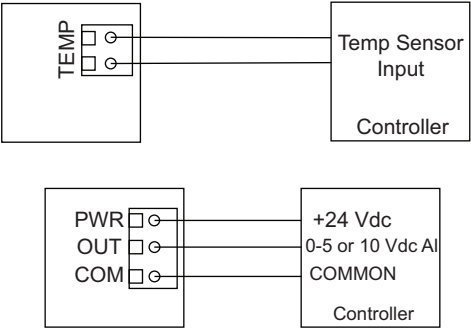

Fig. 69 — SAT/RH Sensor Wiring
- Pull at least six inches of wire into the enclosure, then complete the wiring connection per Fig. 69.
- The analog output is available on the OUT terminal. Check the controller Analog Input to determine the proper connection before applying power as shown in Fig. 69.
- The resistance temperature output is available on the two terminals labeled TEMPERATURE SENSOR as shown in Fig. 69.